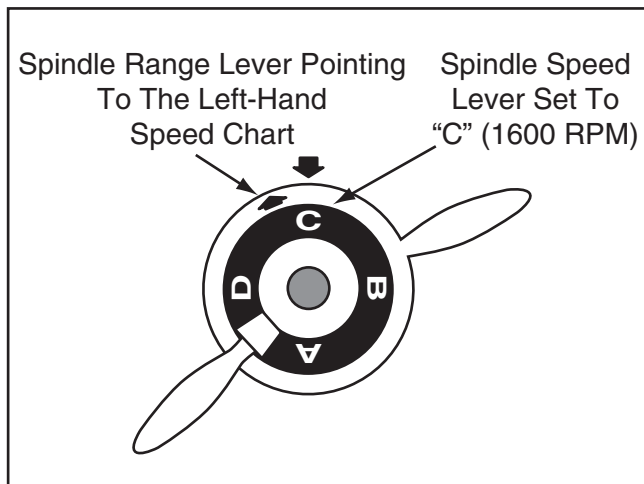

Figure 71. Spindle speed set at 1600 RPM.
3. Move the spindle range lever to the left so that the arrow on top of its hub points toward the left-hand speed chart (see the illustration in **Figure 71**).